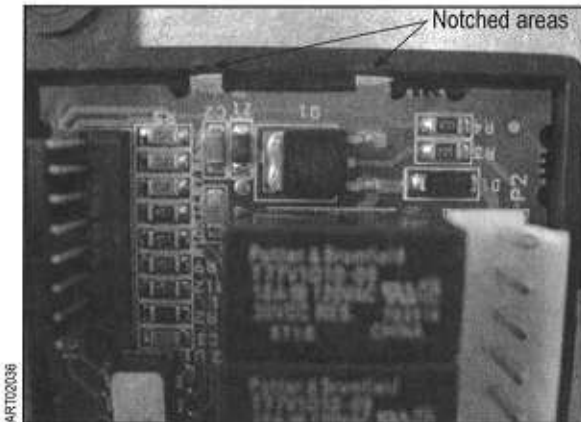

Figure 11. Removing the Defrost Board
6. Insert the tip of a small screwdriver into the notched area at the top of the defrost board and pry the defrost board free of the plastic retainer. Refer to Figure 11. (Discard the old defrost board.)